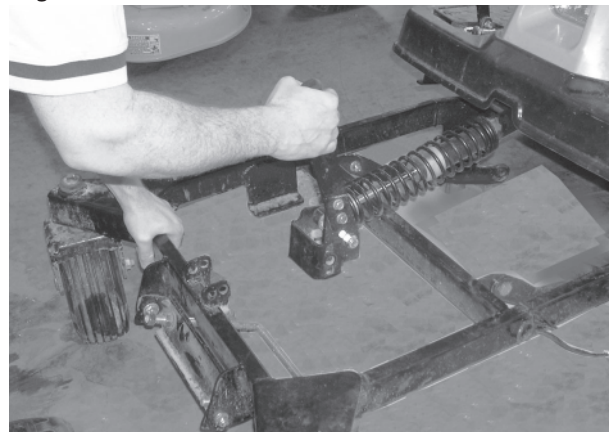

Figure 3-9
- Rotate the shock absorber handle forward, then lift and hold the shock assembly upward while carefully rolling the deck frame rearward to the tractor frame. Refer to Figure 3-9.
- Grasp the shock absorber pivot handle and lift upward off the deck frame mounting bracket. Hold the shock absorber up while rolling the deck frame away from the front of the tractor. Refer to Figure 3-9.